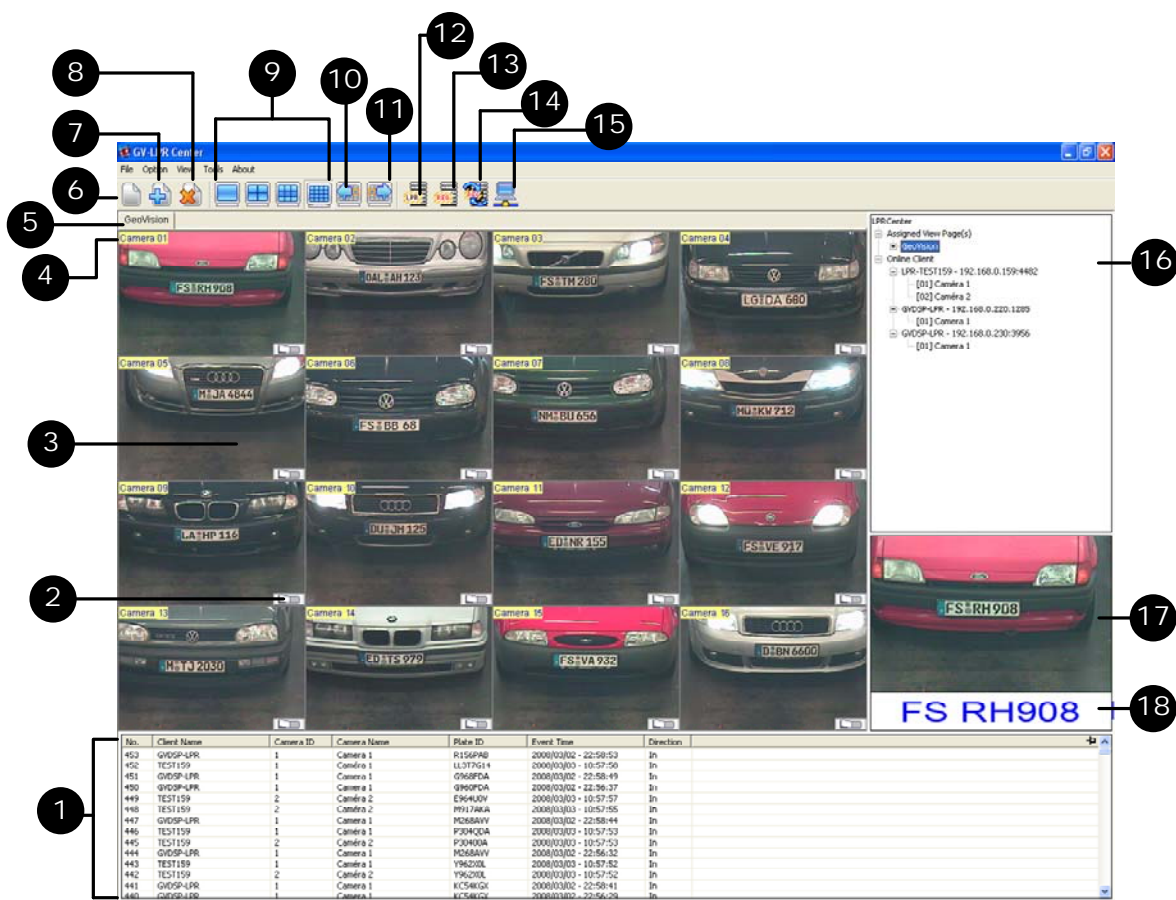

Figure 1-1
To assign cameras to the View Pages, select the desired camera from the Online Client category (No. 16, Figure 1-1), and drag it to the desired Live View Window on the View Page (No. 3, Figure 1-1).
Click the desired camera from the Assigned View Page field (No. 16, Figure 1-1). This dialog box appears.
In the Recognition Records field (No. 1, Figure 1-1), click the desired record. This dialog box appears.
2. At the GV-LPR Center site, click the **Remote Desktop** button (No. 15, Figure 1-1) on the toolbar or **Tools** on the menu bar and select **Remote Desktop**.
Click the **Recognition Database** (No.12, Figure 1-1) button to open the Recognition Database.
Click the **Registered Plate Database** button (No. 13, Figure 1-1) to open the Registered Plate Database.